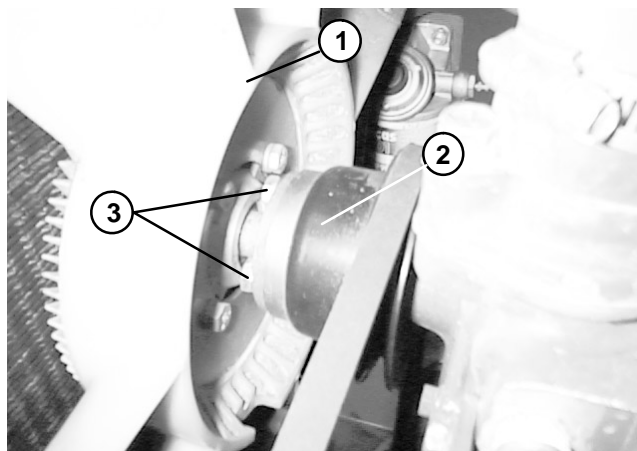

Figure 21
8. Remove fan from the fan pulley. Remove fan shroud and fan from machine (Fig. 21). Remove fan shroud from the machine.
9. Position fan shroud to the radiator. Install fan to the fan pulley (Fig. 21).